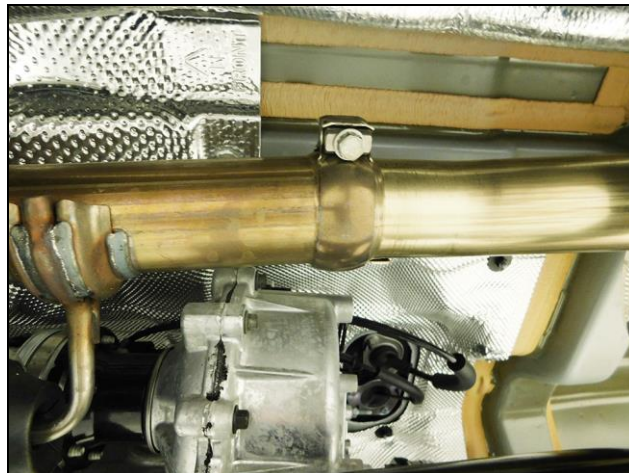

Figure 2
9. Install the Blackheart muffler onto the OEM Y-pipe from the engine. Place the formed end of the muffler inlet on to the Y-pipe outlet. Slide the clamp over the connection and install the bolt from the bottom. Tighten the bolt to hold the muffler assembly in place, but still allow for adjustment (**Figure 2**). The muffler should be level and square with the frame rail.